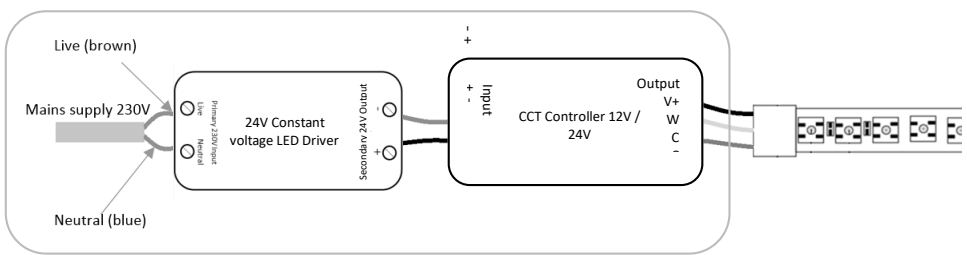

Fig 2 • Wiring diagram as reference only, driver may differ
- From the secondary side of the driver connect a red and black cable to the input side of the CCT controller ensuring correct polarity is observed (+ Red) [- Black] (see Fig 2)
- Terminate cables from the CCT Flex to the CCT controller (red to V+) (blue to W) (clear to C) (see Fig 2)